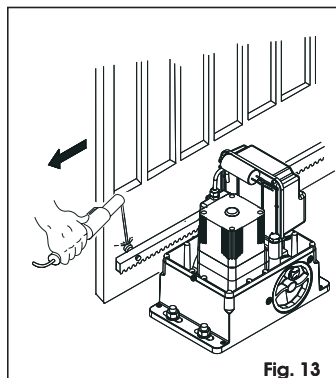

Fig. 13
- Lay the first section of rack level on the pinion and weld the threaded pawl on the gate as shown in Fig. 13.